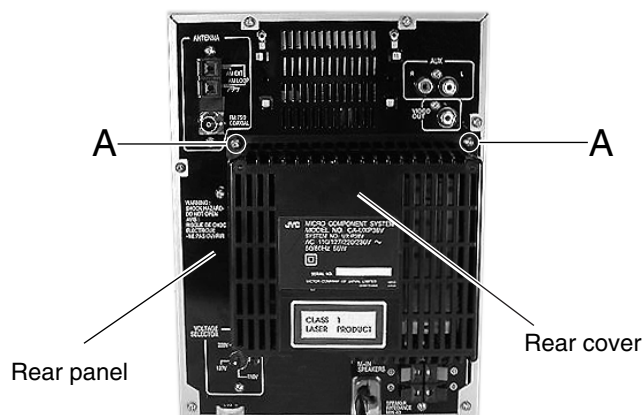

Fig. 1
■ Removing the rear cover (See Fig. 1 & 2)